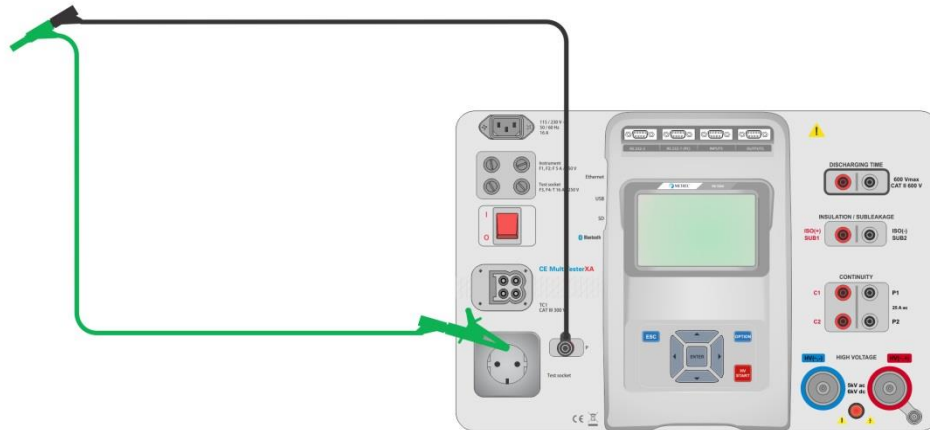

Figure 6.20: Shorted test leads
- › Connect test leads to the instrument and short the test leads together, see *Figure 6.20*.